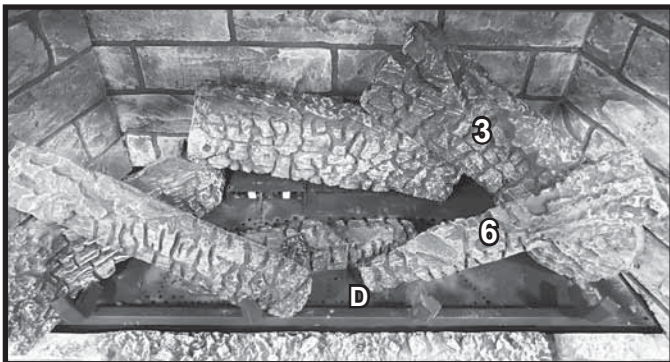

Figure 9. Log #6 Installed
**LOG #6:** Place the burnout tip of Log #6 against pin D and the end of grate tine. Place the bark end on the flat spot of Log #3. See Figure 9.